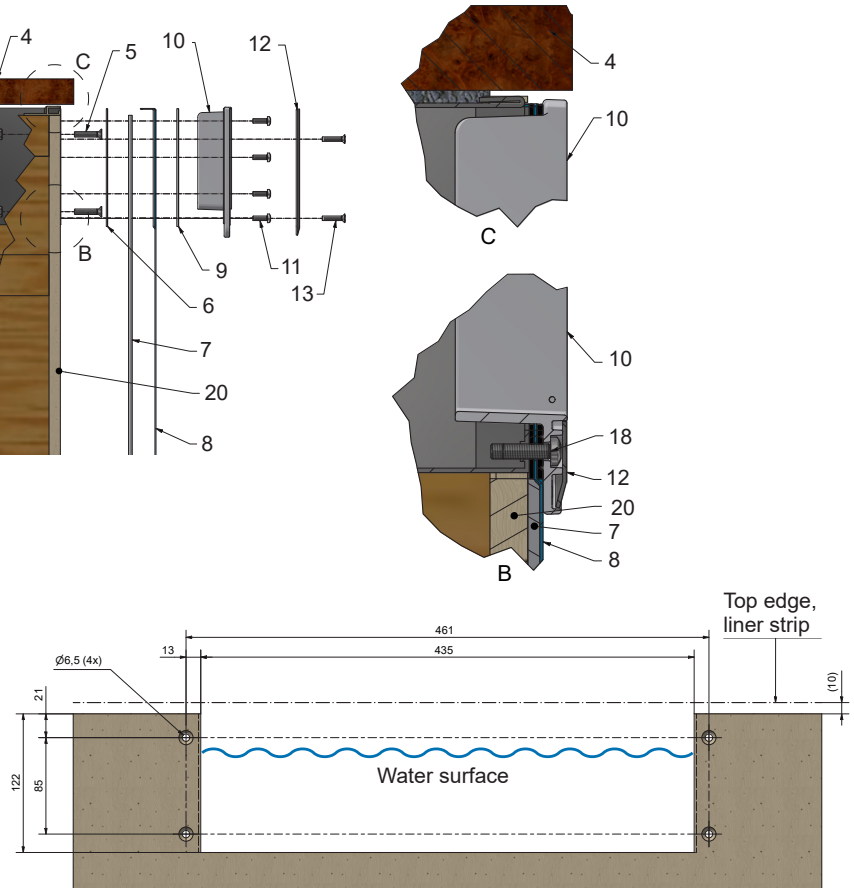

Figure 3.
1. Make a hole in the frame for the skimmer, dimensions and location as shown in Fig. 3.
4. The drainage pipe (14) is glued to the pipe muff (15) using a suitable PVC adhesive and fitted in the skimmer with the enclosed gasket and nipple (16). Connect pipe fittings to the overflow.
6. Install the flap gate (17) and check that it is correctly located and can move.
7. Attach the self-adhesive gasket (7) to the front edge of the skimmer (facing the pool).
10. Fit the outer gasket (9) and the mounting frame (10) - fasten first, then tighten crosswise.
11. Carefully cut the liner cleanly along the inside of the mounting frame (10).
1. Make a hole for the skimmer in the frame, dimensions and location as shown in Fig. 3, 4, 5, 6 and 7.